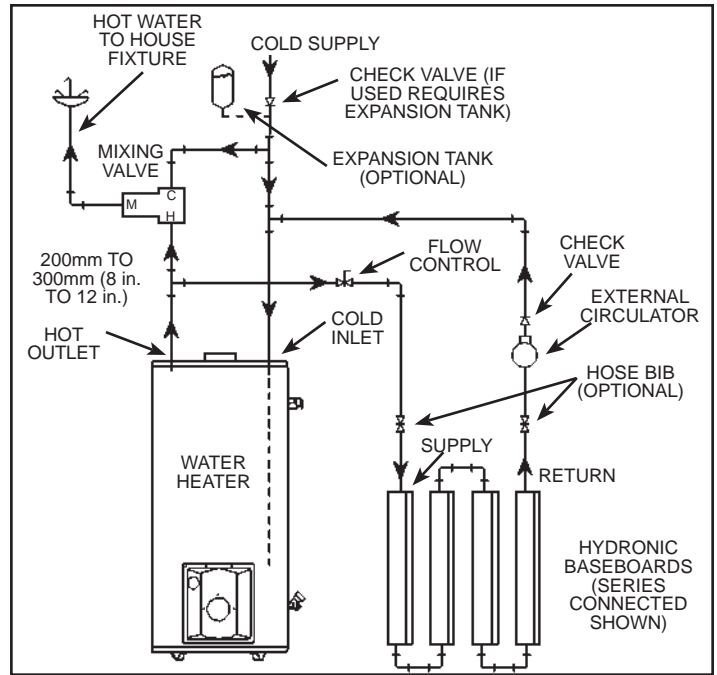

Figure 18. Combo Heating - Baseboard
2. A hydronic baseboard (finned tube) loop (Figure 18).